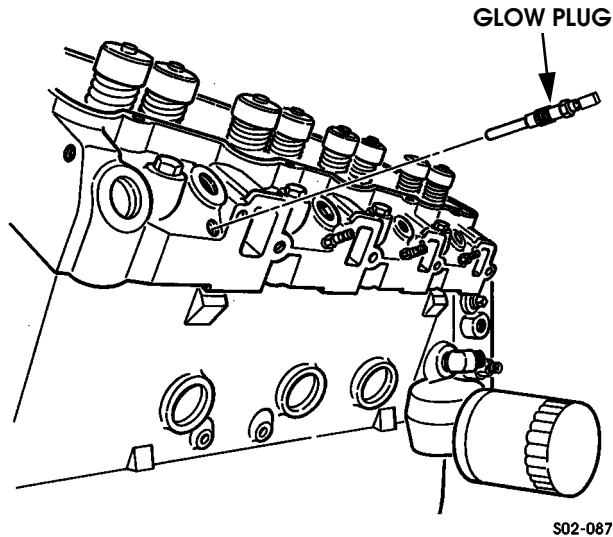

Figure 2-203: Glow Plug Installation
1. Install glow plugs in each cylinder head (Figure 2-203). Tighten plugs to 8-12 lb-ft (11-16 N•m).